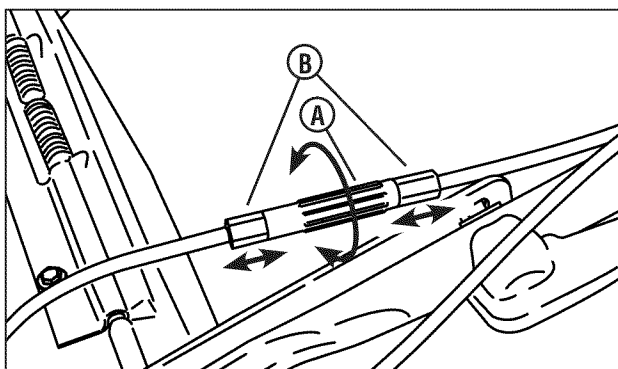

Figure 19: Adjusting the drive cable
- If the transmission does not engage, rotate the turnbuckle (**A, Figure 19**) one-half turn to move the ferrules (**B**) out from the turnbuckle. Check and repeat as needed.